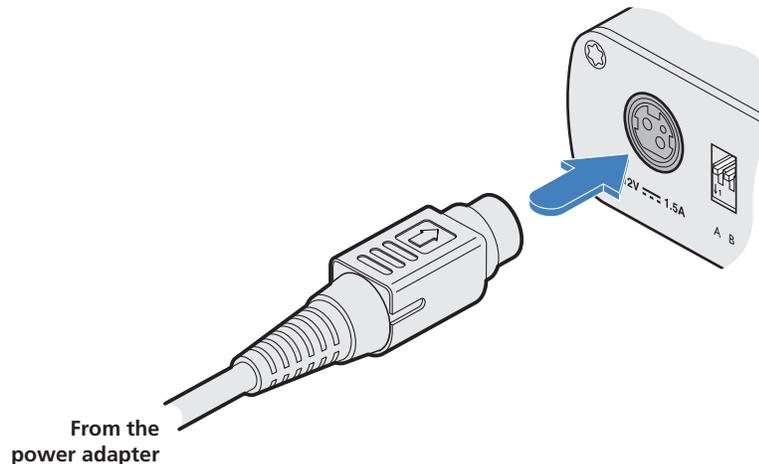

Figure 3-5. Attaching the power adapter output plug to the input socket.
1. Attach the output plug of the supplied power adapter to the power input socket on the left side of the rear panel. See Figure 3-5.